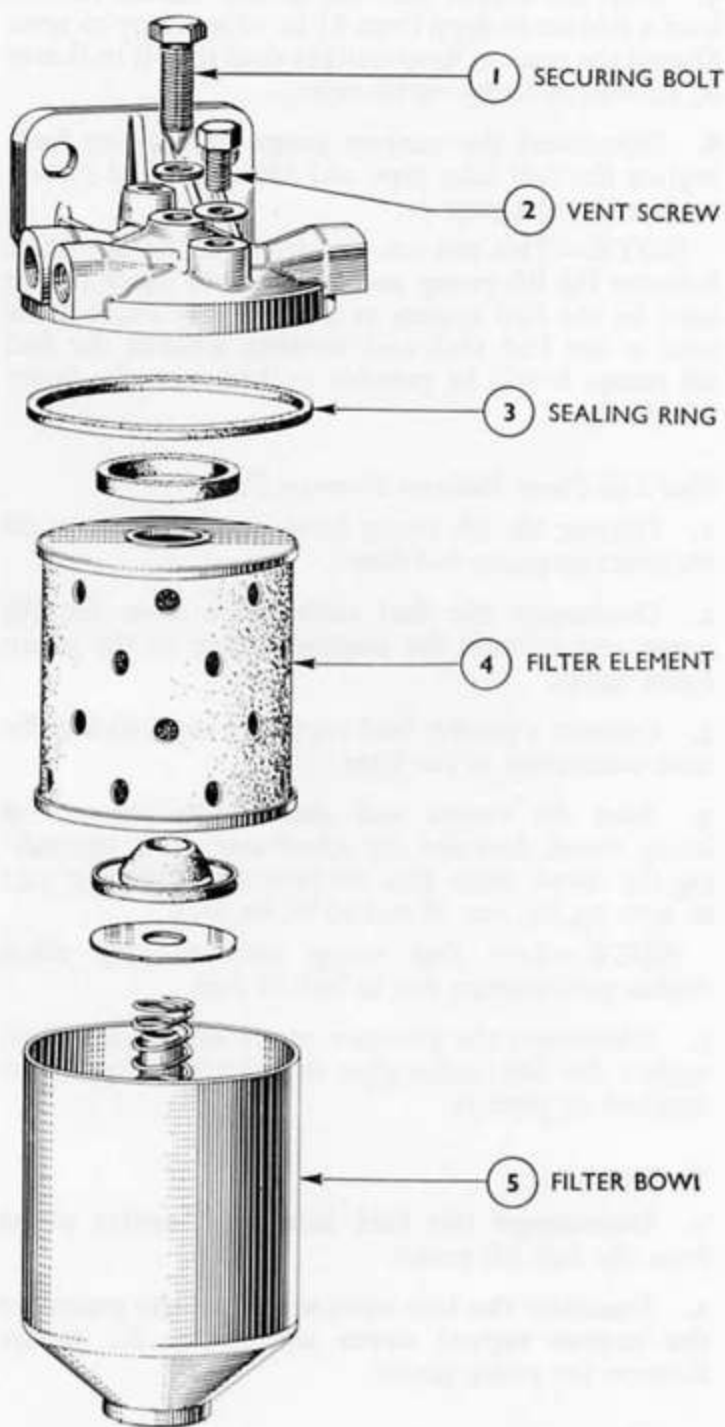

Fig. 52
1. **Unscrew the filter securing bolt** and withdraw the filter body and element (see Fig. 52). Remove the rubber sealing ring from the filter head.
2. **Fuel filter**—Slacken, by two or three turns, the fuel filter vent screw on the top of the filter cover (see Fig. 52). Do not slacken the return pipe to the tank.
- (a) Fuel filter vent screw. (Fig. 52.)